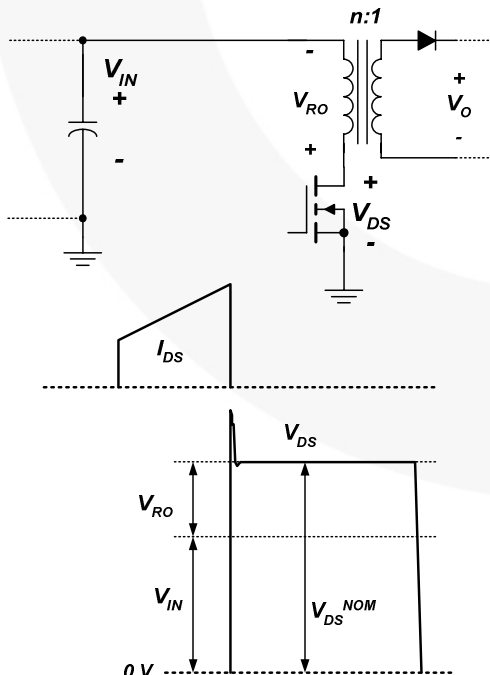

Figure 3. Output Voltage Reflected to the Primary
When the MOSFET is turned off, the input voltage (V_{IN}), together with the output voltage reflected to the primary, (V_{RO}) are imposed across the MOSFET, as shown in Figure 3. With a given V_{RO} , the maximum duty cycle (D_{MAX}) and the maximum nominal MOSFET voltage (V_{DS}^{NOM}) are obtained as:
As can be seen in Equation (7), the voltage stress across the MOSFET can be reduced by reducing V_{RO} ; however, this increases the voltage stresses on the rectifier diodes in the secondary side. Therefore, V_{RO} should be determined by a trade-off between the voltage stresses of MOSFET and diode. Because the actual drain voltage rises above the nominal MOSFET voltage due to the leakage inductance of the transformer, as shown in Figure 3, it is typical to set V_{RO} around 70~100V so that V_{DS}^{NOM} is 430~450V for 600V MOSFET (73~78% of MOSFET voltage rating).